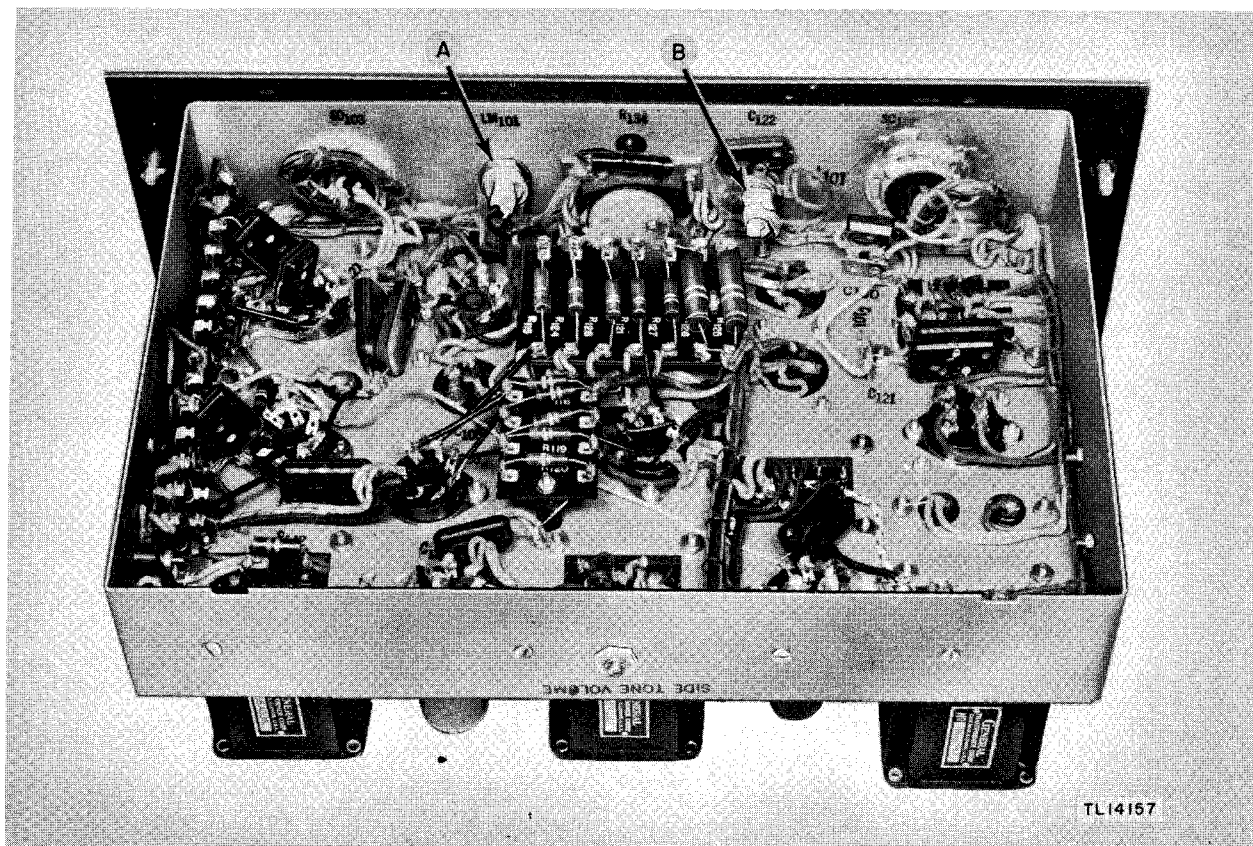

Figure 38. Speech Amplifier BC-614-E—bottom interior view of chassis, showing method of masking.
(5) Lamp socket  $LM_{101}$ , item A, figure 38.
(6) Key jack  $J_{101}$ , item B, figure 38.
(7) Contacts of jacks  $J_{102}$  (not shown in il-